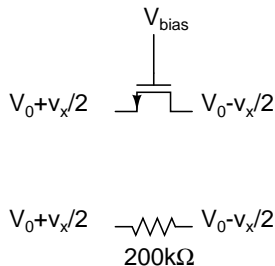

Figure 3:
4. (For this problem, The minimum usable dimension is $0.3\ \mu\text{m}$.) A MOSFET is used as a $200\text{ k}\Omega$ resistor (Fig. 3) $V_0 = 0.5\text{ V}$ and v_x is restricted to 0.25 V . The nonlinear part of the current (Difference between the exact expression and its linear approximation) in the resistor should be at most 5%. Cal-